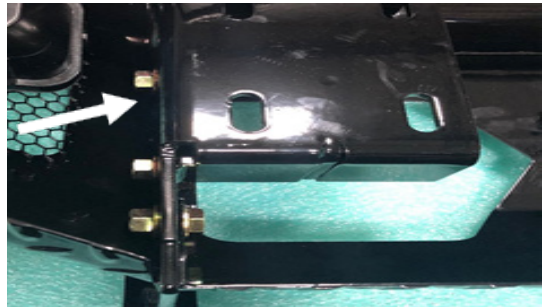

Figure 18
*NOTE: Not all the sensors or housings are the same. Use the two (2) flat sensor housings for the center two holes and the four (4) dished sensor housings for the outer four holes. Be mindful to install the correct sensor unit as shown.*
**17. Take the lower guard (21983) and install it into the bumper using 3/4" socket wrench with the six (6) 1/2"-13 x 1" bolts flat and lock washers with nuts (20260-HW). (Figure 18)**